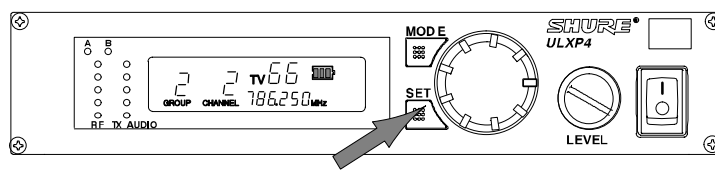

FIGURE 39
4. To tune the receiver to the new Group, press the SET button. An open Channel in this Group will automatically be scanned and saved in the background. The display will then return to the default mode, as shown in Figure 39. If you choose not to accept the receiver's recommended Group, rotate the control knob to the right to scroll through the list of scanned groups.